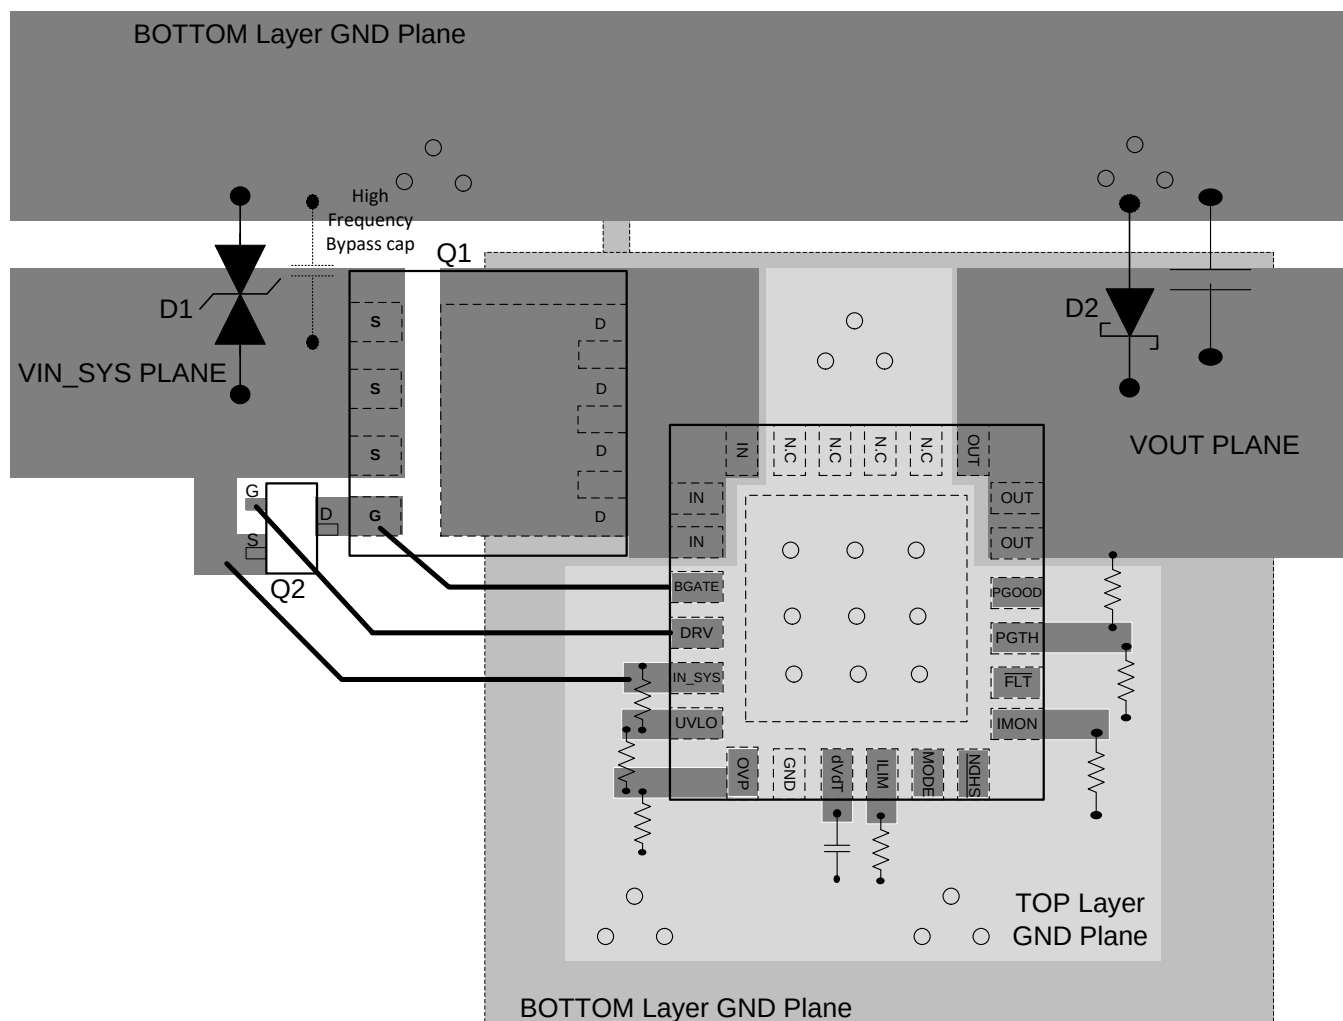
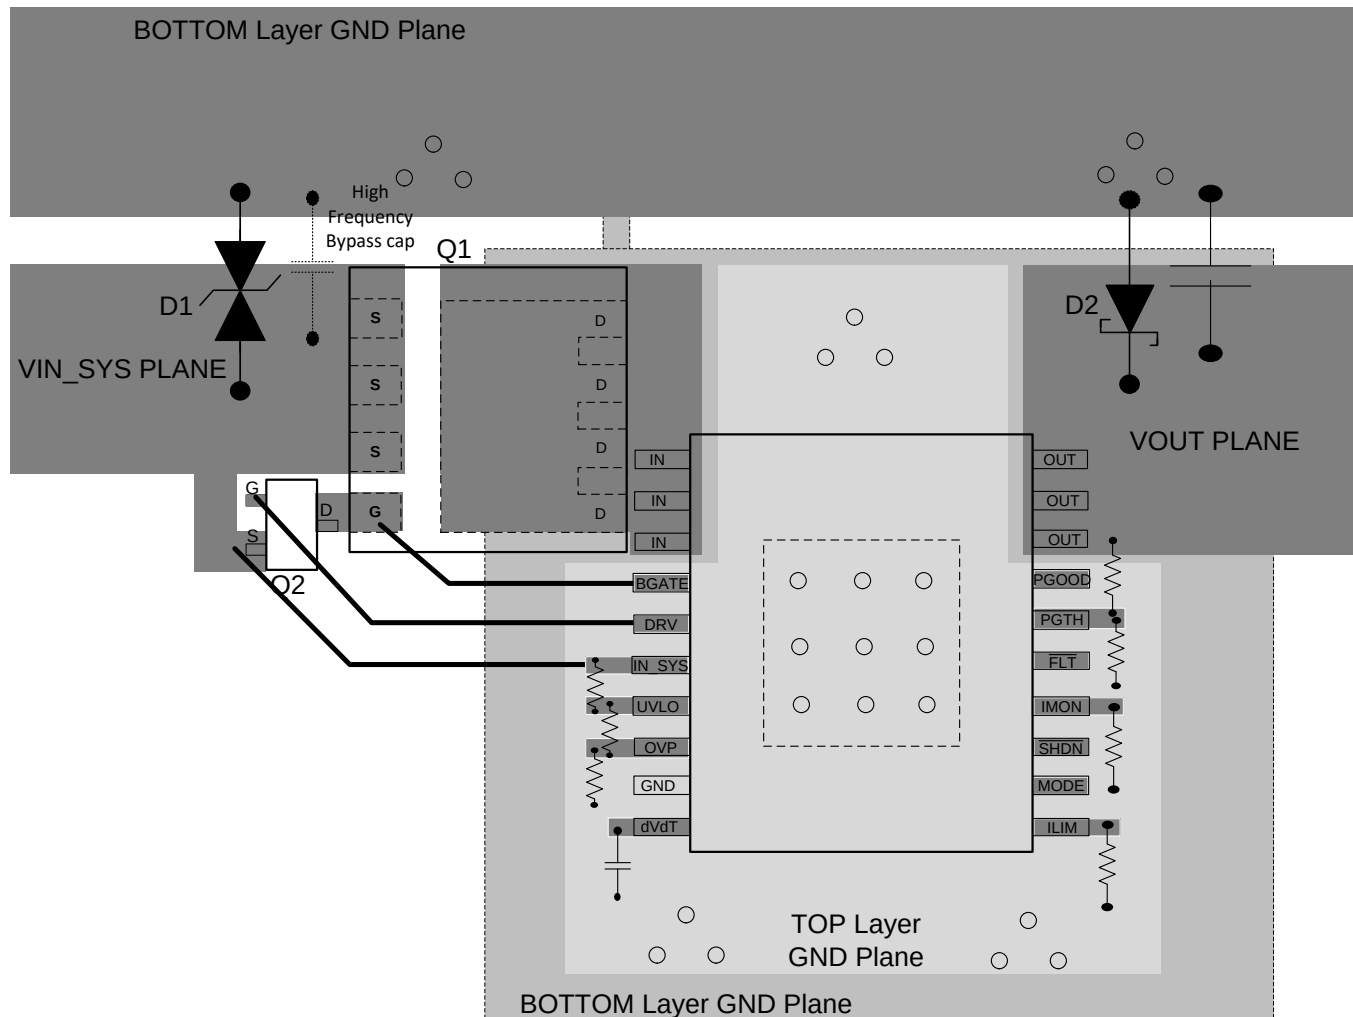

Figure 32. Typical PCB Layout Example With QFN Package With a 2 Layer PCB
Figure 33. Typical PCB Layout Example With HTSSOP Package With a 2 Layer PCB
- The external FET Q1 should be placed with DRAIN close to the V_{IN} pins of the IC and connected through a plane. The fast pull down switch Q2 DRAIN and SOURCE should be placed very close to the GATE and SOURCE terminals of Q1 with very short loop. See Figure 32 and Figure 33 for a typical PCB layout example.